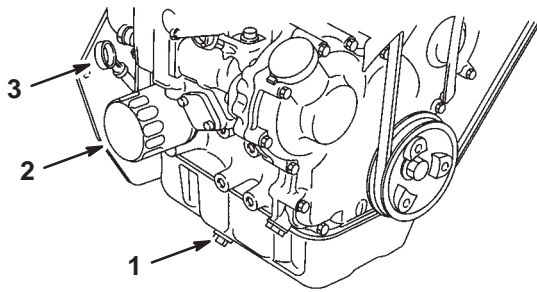

Figure 41
5. Place a pan below the oil drain. Remove the drain plug and let the oil drain completely (Fig. 41).
3. Turn the filter counterclockwise to remove it (Fig. 41 and 45).